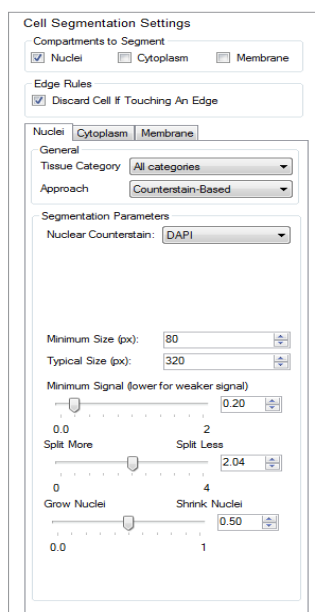
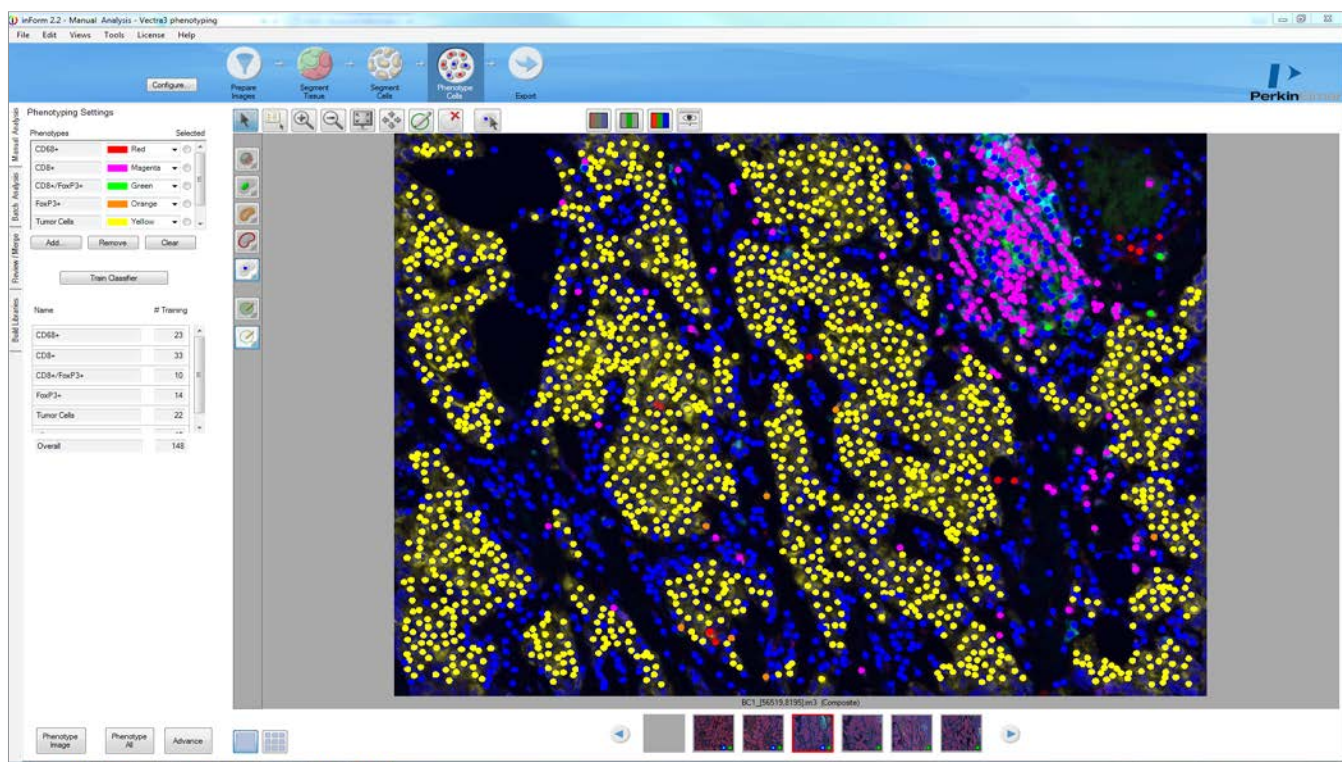

Figure 18. Cell segmentation training controls.
Figure 21. Phenotyping example. Cellular phenotypes are identified by colored dots.
- Familiarize yourself with all parameters in the Counterstain-Based approach editor (Figure 18) by adjusting and observing the effect of each on segmentation (Figure 21).